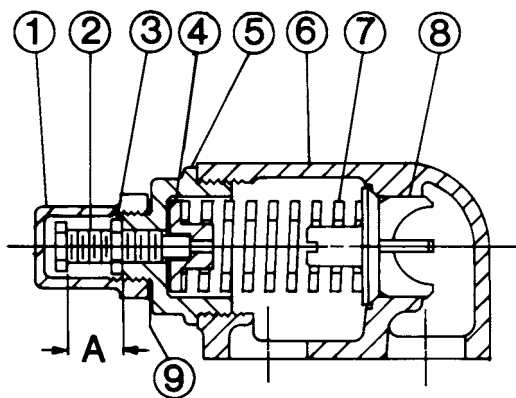

FIGURE 13
2. Measure and record the length of extension of the adjusting screw. Refer to "A" on **Figures 13 and 14**.